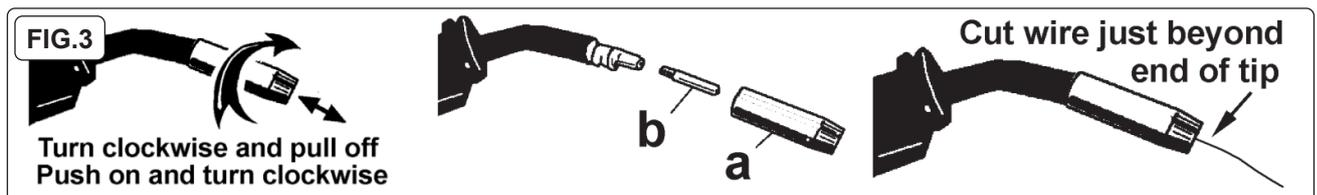

FIG.3
5.2. FEED THE WIRE THROUGH TO THE TORCH (FIG.3)
- d) Unscrew the copper contact tip (fig.3.b) (right hand thread) to remove.
This set up is known as DC Electrode Positive (straight polarity). This is commonly used for DC MIG welding. When installing wire, remove contact tip from MIG gun first, after wire is sent out, put the contact tip back (see fig.3).
This set up is known as DC Electrode Negative (reverse polarity). This is commonly used for DC Flux Core welding. When installing wire, remove contact tip from MIG gun first, after wire is sent out, put the contact tip back (see fig.3).